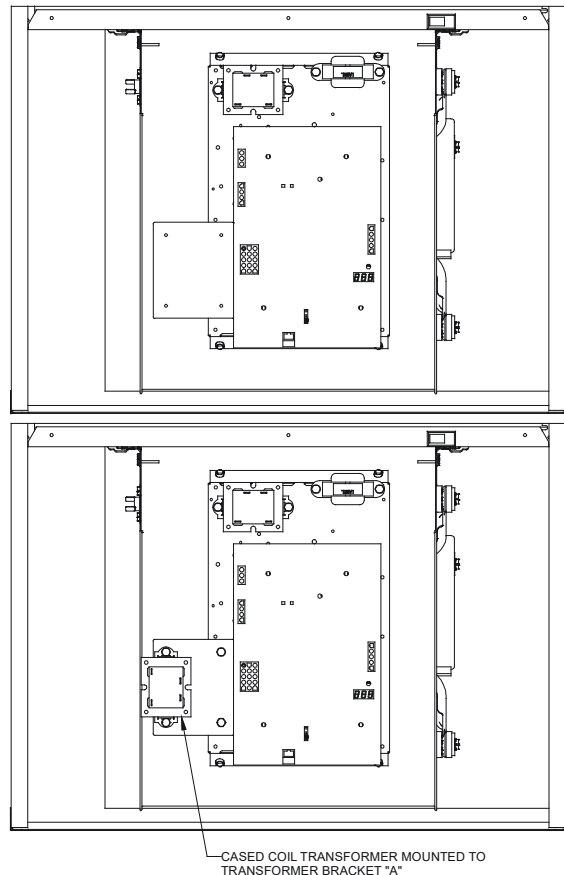

Figure 15
The case of 21.0" and 24.5" width cabinet furnace, the bracket "A" can be fastened on extra screw holes on the PCB control deck using (2) self tapping field supplied screws (See Figure 15).